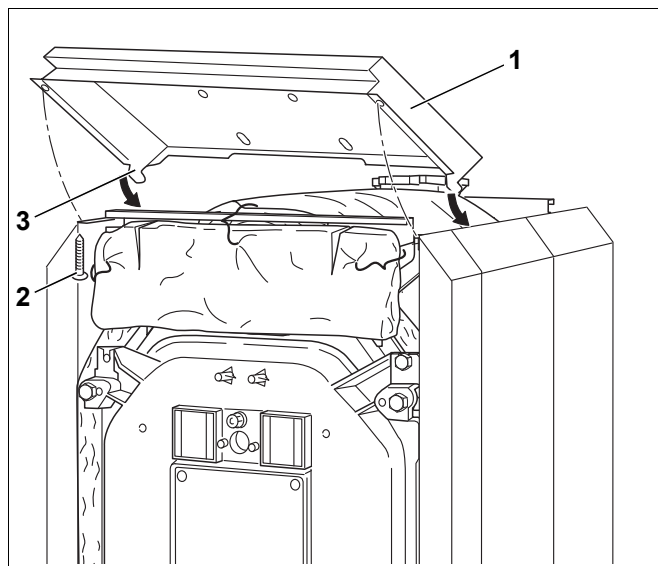

Fig. 52 Installing the front cover
- Hook the front cover (Fig. 52, **[1]**) with both hooks (Fig. 52, **[3]**) into the front side panels.
- Secure the front cover with two self-tapping screws (Fig. 52, **[2]**) from below with the longitudinal rails.